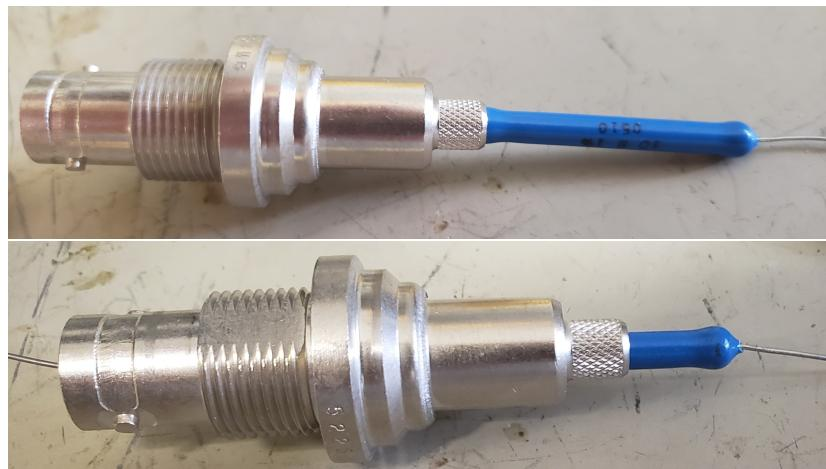

Figure 11: Resistor fit test.
1. Trim the lead on the resistors that will connect to the capacitor array down to ~ 6 mm. Bend a loop into the trimmed lead so it easily holds a solder ball. Make sure the resistor that will be used for the SHV connector end can fit in the connector. See figure 11.